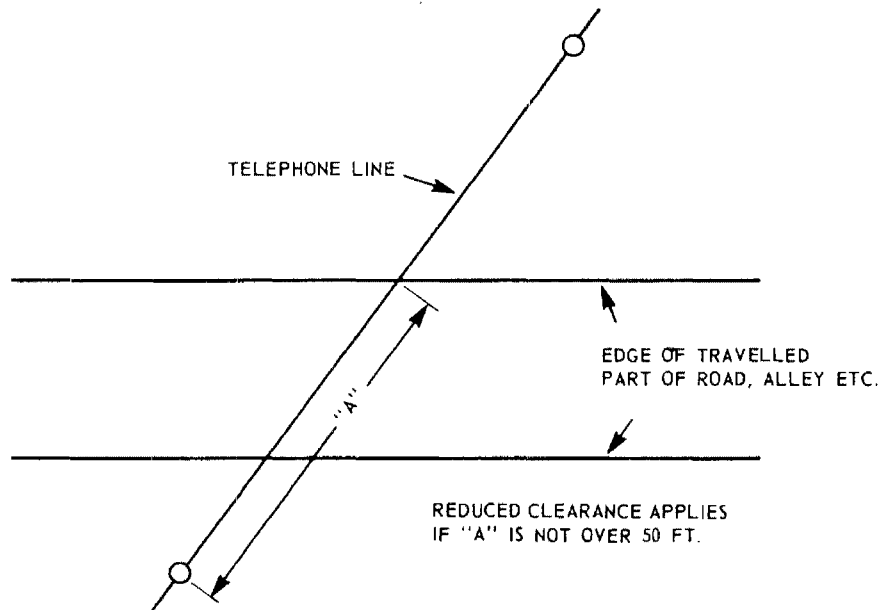

Fig. 1
1.05 When drop wire sags exceed about two or three feet, it will generally be quite advantageous to locate poles so as to avoid having the middle of the crossing span occur above the travelled part of the road, alley, or driveway. This will frequently be the case when the pole is within 50 or even 75 feet of the far edge of the road, alley or driveway, (distance "A" in Fig. 1).